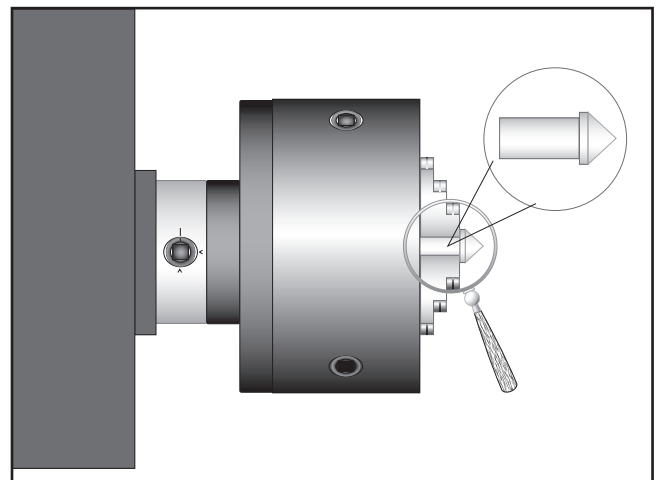

Figure 34. Tailstock centering dead center.
4. Using the other piece of stock, make a dead center by turning a shoulder to make a shank. Flip the piece over in the chuck and turn a 60° point (see **Figure 34**).